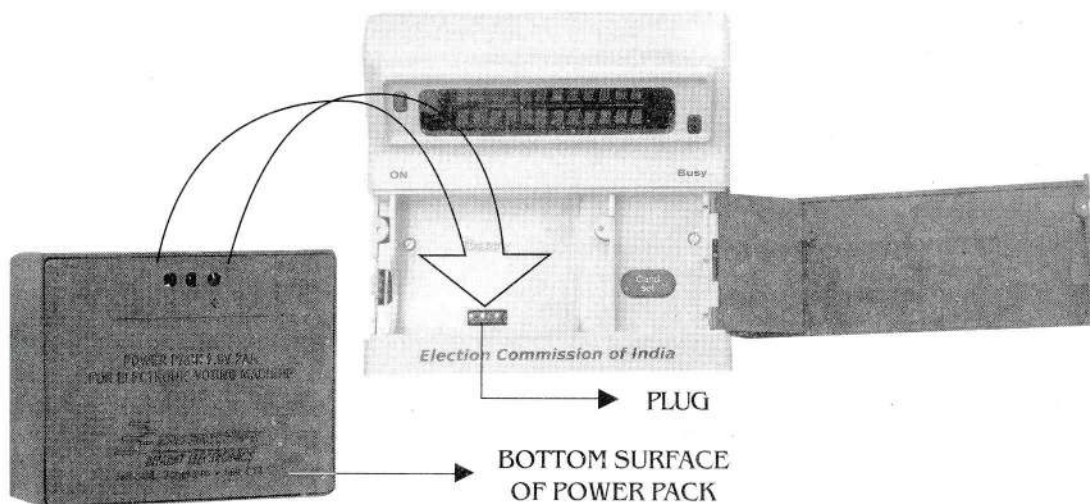

FIG. 20 Installing the power pack
11. Open the outer door of the Candidate Set section by pressing slightly inward the latch provided on the left side. Install the power pack specially supplied by mating the socket of the power pack to the plug. Ensure that the power pack is pressed tight (Fig. 20) and (Fig 8(A)).